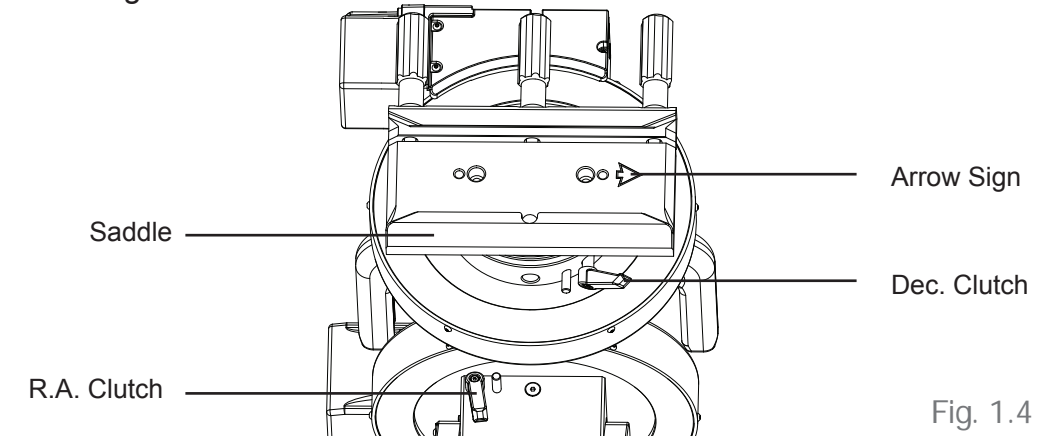

Fig. 1.4
- The R.A. Axis is secured by tightening the R.A. Clutch. (Fig. 1.4)
- Release the Dec. clutch knob (Fig 1.4) and rotate the Dec. axis until the three knobs on the saddle are facing upward and the dovetail groove is leveled (Fig 1.4). Tighten the Dec. clutch again.
- While holding the telescope horizontally, seat or slide the dovetail bar of the telescope to the groove of the saddle. The pointing direction of the telescope should match the arrow sign on the saddle (Fig 1.4).